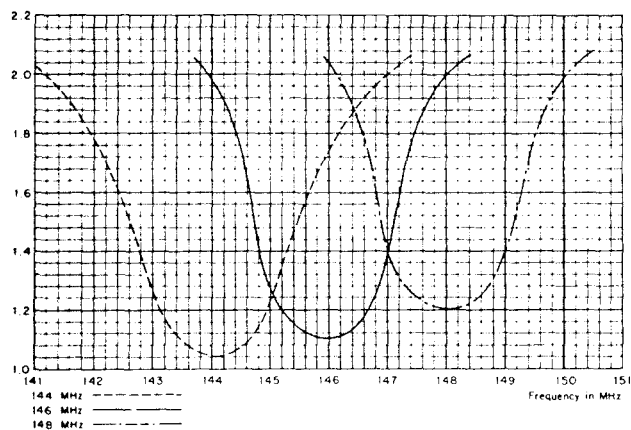

Figure 3A
**Driven Element:** SWR can be lowered to less than 1.2:1 at a desired frequency by carefully trimming the driven element. Keep the element symmetrical by cutting the same amount from each side. Typical SWR curves are shown in Figure 3A, and a cutting chart is shown in Figure 313. Each installation is slightly different, so cut the driven element for the lower SWR at your particular location. Measure the SWR as close to the antenna as you can for accurate results.